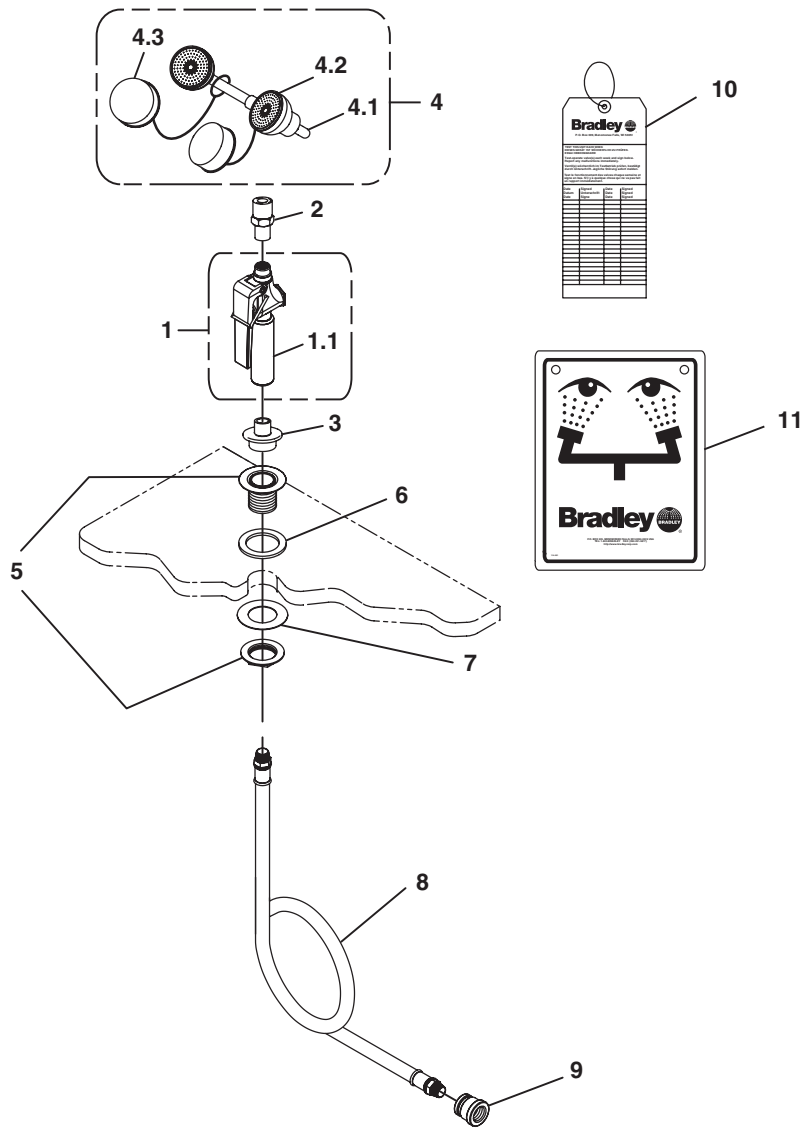

Figure 2
3. Install the drain plug using the washers and locknut provided (see Figure 2 and the parts list, page 4).
1. Install the drench hose assembly as shown in Figure 2 on page 4.